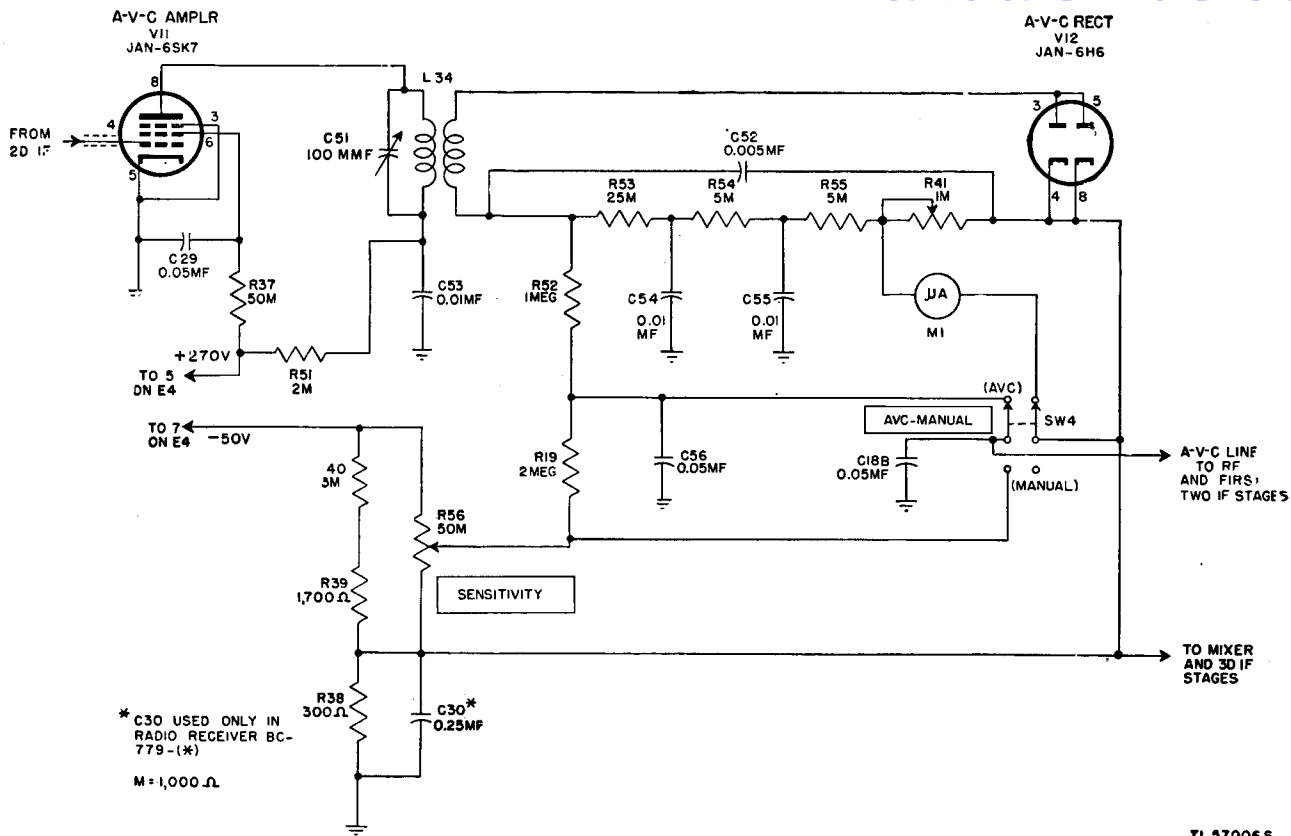

Figure 31. Radio Receiver BC-779-B, functional diagram of a-v-c stages.
a. MIXER TUBE JAN-6L7. For simplicity, capacitor C71, main tuning ganged capacitor C1C, and band spread ganged capacitor C2C are represented as a single variable capacitor C across the inductance trimmed secondary of r-f transformer L18. Signal voltages across C are applied through 600-mmfd capacitor C11 to signal grid G1 (top cap) of pentagrid mixer Tube JAN-6L7. Fixed bias from the voltage divider (fig. 31) is applied through a filter circuit (10,000-ohm resistor R10 and 0.01-mf capacitor C12) and 500,000-ohm grid resistor R9 to the signal grid. Screen grid G2 and G4 (pin 4) forms a screen about injection grid G3 (pin 5), and the h-f oscillator output is coupled through 95-mmfd capacitor C13 to the injection grid. Since the screen grid shields the signal and injection grids from one another, the tube electron stream is modulated independently by the r-f and oscillator signals. Heterodyne action produces sum and difference frequencies in the mixer output. The primary of transformer T1 is tuned by C21 to the 465-kc *difference* frequency to which the i-f amplifier is also tuned. The i-f voltage across the secondary winding of transformer T1 is applied to the crystal filter.
b. H-F OSCILLATOR TUBE JAN-6J7. The plate (pin 3), suppressor grid (pin 5), and screen grid (pin 4) of Tube JAN-6J7 are tied together and the tube is used as a triode in a Hartley oscillator circuit. The h-f oscillator operates at a frequency exactly 465 kc higher than that of the received signal except as in c(1) below. Plate voltage is shunt-fed by means of a 12,000-ohm resistor R14 and a 0.01-mf capacitor C16. Resistor R14 isolates r-f energy to the oscillating circuit, and capacitor C16 couples the plate to the tank circuit. The cathode is connected to a tap on tank inductance L23. Consequently, tube current passes through a portion of the tank inductance and excites the tank circuit into oscillation. Grid excitation is obtained from the upper (larger) section of tank coil L23 and coupled to the grid (top cap) of V4 by 1,220-mmF capacitor C81, and 50-mmF capacitor C15. Oscillator bias is developed by the grid-leak capacitor combination 50,000-ohm resistor R13 and capacitor C15. The frequency of oscillation is a function of the inductance of L23 and the effective capacitance of capacitors C76, C81, C1D, and C2D. Capacitor C76 is a 4- to 28-mmF trimmer which enables alinement at the h-f end of the main tuning dial; the inductance trimming adjustment of L23 is used for alinement at the l-f end; capacitor C81 is a fixed 1,220-mmF l-f padder; capacitor C1D is the oscillator section of the ganged main tuning capacitor; and capacitor C2D is the oscillator section of the ganged band spread tuning capacitor. The r-f voltage between the tank tap and ground is coupled through 95-mmF capacitor C13 to the injection grid of mixer Tube JAN-6L7. The 50,000-ohm resistor, R11, acts as a grid leak for the injection grid of the mixer tube.
65. A-V-C Circuit (fig. 31)
and to the control grid (pin 4) of the a-v-c amplifier stage V11 (fig. 31). V7 and V11 have a common grid circuit, including fixed bias. The suppressor and cathode of V11 are grounded; screen voltage is applied to pin 6 through 50,000-ohm series-dropping resistor R37; and the screen is bypassed by 0.05-mf capacitor C29. Plate (pin 8) voltage is applied through 2,000-ohm filter resistor R51 and the primary of transformer L34. The primary of L34 is tuned to 465 kc by 100-mmF capacitor C51, and capacitor C53 (0.01-mf) bypasses high frequencies to ground. The transformer secondary is untuned.